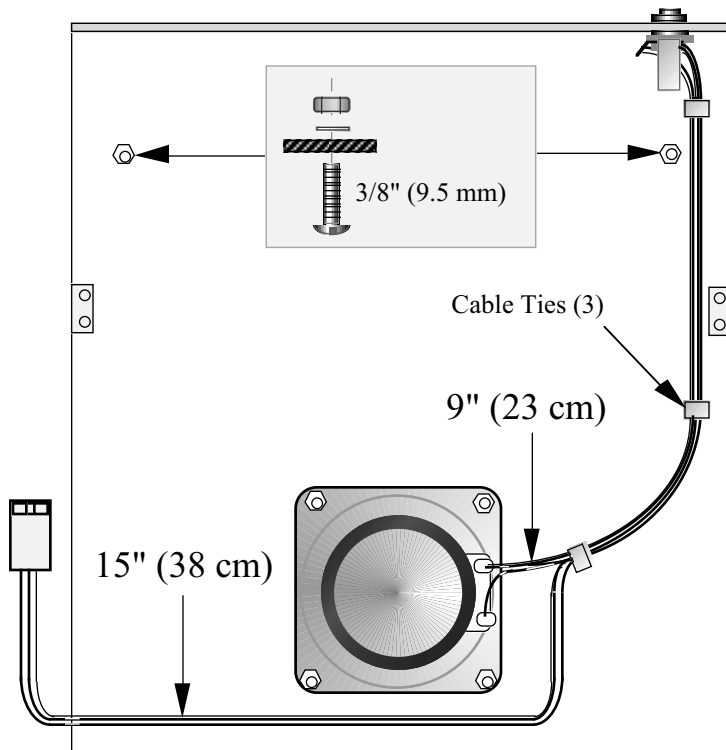
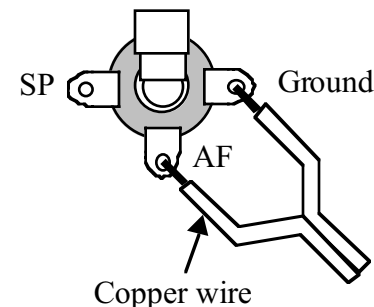

Figure 7-1
Figure 7-4
- Place the top cover upside down as shown in Figure 7-1, with the rear panel facing away from you. The illustration shows how the speaker, 2-conductor cable, external speaker jack and other hardware will be attached to the top cover.
- Place #4 fibre washers (black) at each of the top cover's four speaker mounting holes (Figure 7-1). Trim the corners of the grille cloth so it just fits between the fibre washers, not touching them.
- There are two spare holes provided near the top cover's back edge (Figure 7-1). Use two 4-40 x 3/8" (9.5 mm) screws to fill these holes, securing them with #4 lock washers and 4-40 nuts.
- Install two 2-D fasteners at the locations indicated in Figure 7-1 (left and right edges). The 2-D fasteners should line up exactly with the edges. Use two chassis screws per 2-D fastener.
Install the external speaker jack in the hole labeled "EXT SPKR" on the rear panel. Orient the jack as shown in Figure 7-1 and Figure 7-4, with the "AF" tab nearest the inside of the top cover. (**Caution:** Mis-identification of the three tabs could result in an AF output to ground short.)
Connect the other end of this cable to the external speaker jack as shown in Figure 7-4. The copper wire must be connected to the "AF" lug of the speaker jack. Solder only the copper wire.
Use three cable ties at the points shown in Figure 7-1 to hold the speaker cables in place. (Save the fourth cable tie for use with the supplied RF probe.) The ties should be pulled tight. Trim any excess cable tie length.